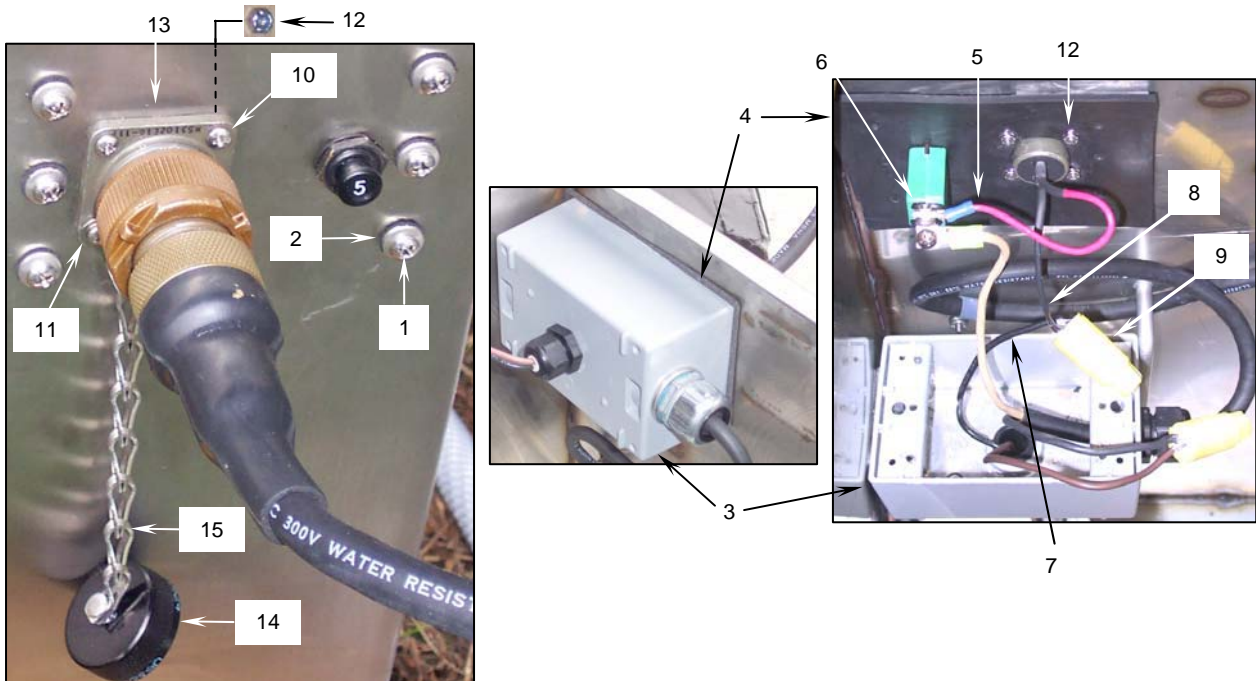

Figure 1. Removing the Grease Separator Electrical Connector.
- a. Remove the six machine screws (**Figure 1, Item 1**) and sealing washers (**Figure 1, Item 2**) that secure the weatherproof box (**Figure 1, Item 3**) to the wall of the grease separator.
- b. Carefully pull the box away from the wall, taking care not to damage the gasket (**Figure 1, Item 4**).
- c. Disconnect the red power connector wire (**Figure 1, Item 5**) from the circuit breaker terminal (**Figure 1, Item 6**).
- d. Tag the black pump wire (**Figure 1, Item 7**) that is connected to the black power connector wire (**Figure 1, Item 8**). Remove and discard the wire nut (**Figure 1, Item 9**) and separate the wires.
- e. Remove the four screws (**Figure 1, Item 10**), one flat washer (**Figure 1, Item 11**), and four self-locking nuts (**Figure 1, Item 12**) that secure the electrical connector (**Figure 1, Item 13**) to the grease separator enclosure.
- f. Remove and retain the connector cap (**Figure 1, Item 14**) and chain (**Figure 1, Item 15**).
- g. Pull the connector (**Figure 1, Item 13**) out of the grease separator enclosure.